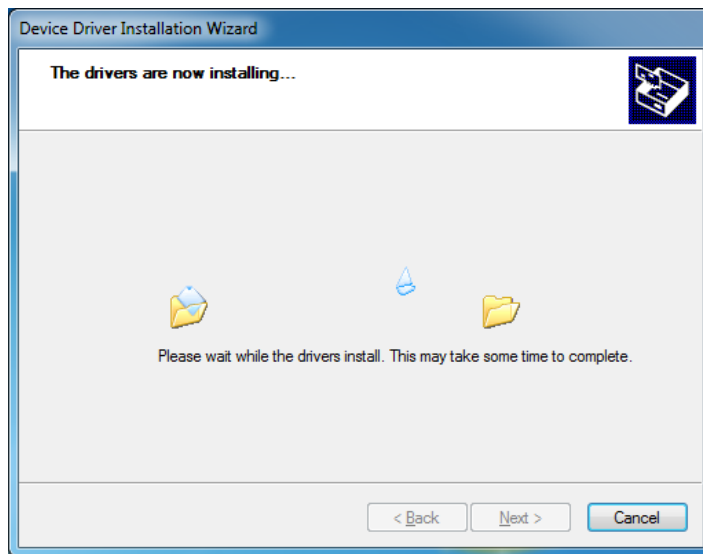

Figure 3-4: Driver Installing
Step 7: The driver starts to install and the screen in **Figure 3-4** appears.